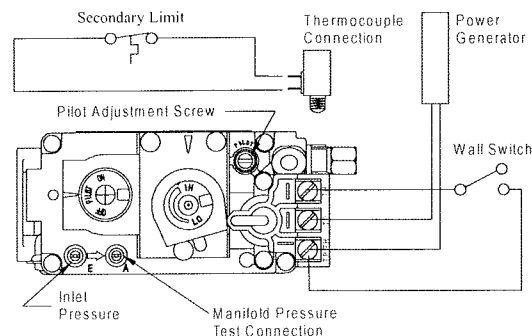

Figure 19. *Sit Nova 820* gas valve.
- Have the fireplace installation inspected yearly, including a visual check of the vent system, the burner and the pilot flame. For convenience a 1/8" manifold pressure tap is supplied on the gas valve for a test gauge connection. See Figure 19.
1. Locate Pilot Adjustment Screw. (*See figure 19.*)
Pilot won't ignite	Disconnect remote wires and try to light pilot. If pilot now works, remote connections are faulty. Check wiring diagram figure 19 .
Main burner will not light	1. Check wiring (see figure 19) 2. Check wall switch for proper connection. 3. Check pilot burner. If extinguished: a. Allow fireplace to cool, then try to relight. b. If condition persists, call a qualified service person.